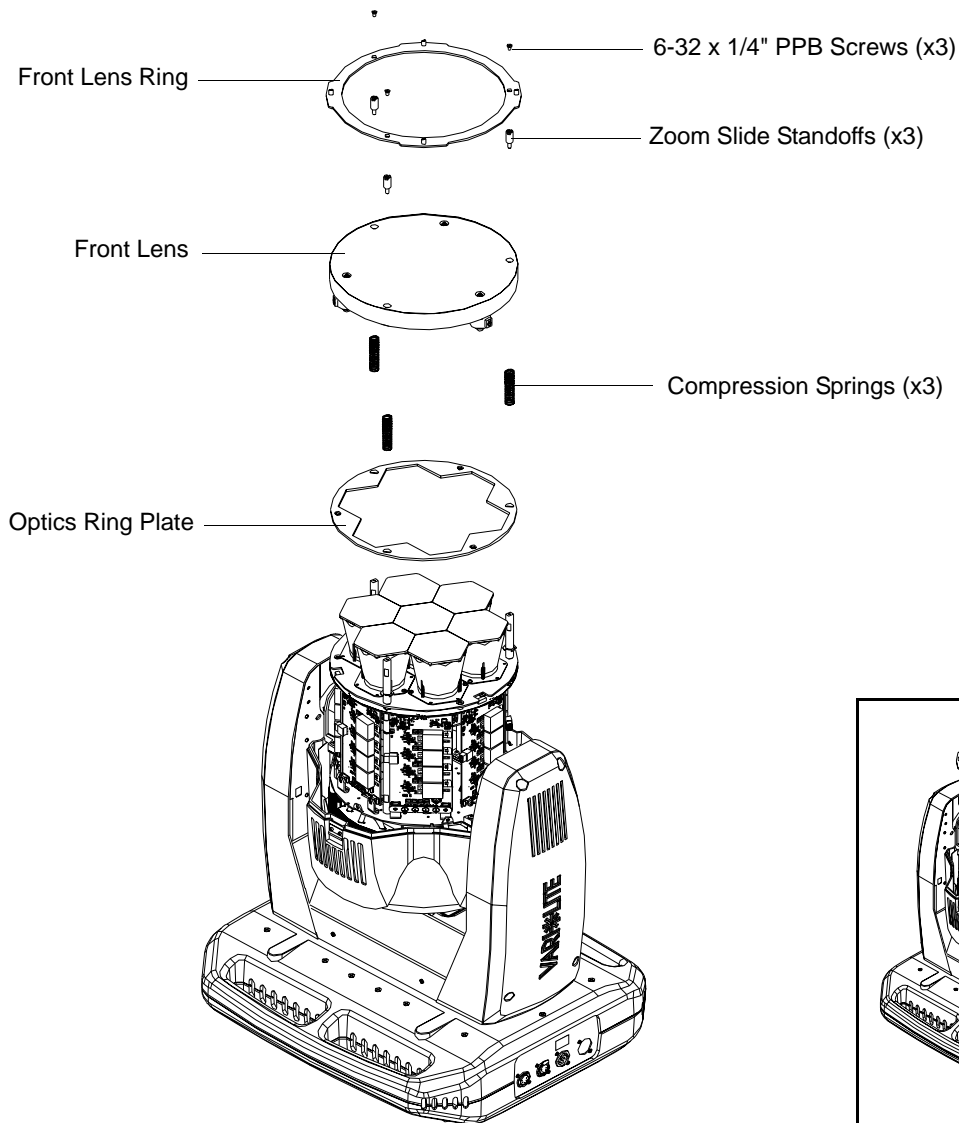

Figure 2-7: Front Lens Removal
Step 6. At head assembly, as shown in Figure 2-7, remove front lens assembly as follows: